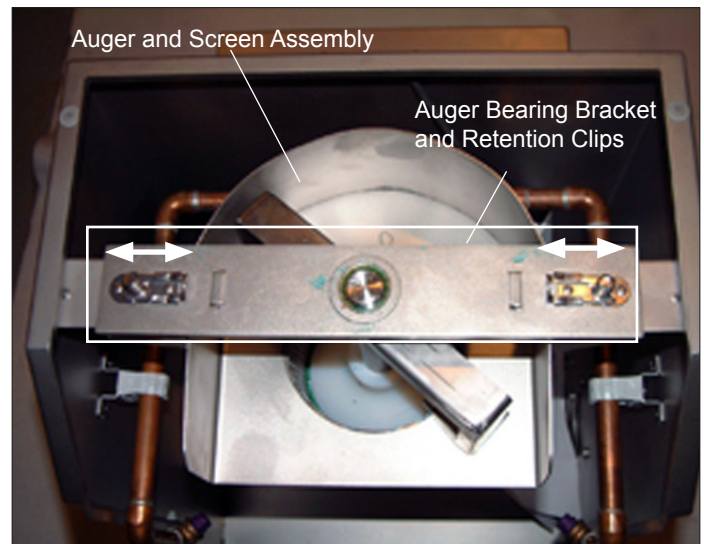

Figure 7. Auger Bearing Bracket and Fasteners
3. Release retention clips on auger bearing bracket by pushing inward and remove bracket (Figure 7).
3. Install bearing bracket assembly over guide pins and auger shaft. Slide retention clips outward toward ends of bracket (Figure 7).
3. Release retention clips on auger bearing bracket by moving inward and remove bracket (Figure 7).
26. Install bearing bracket assembly over guide pins and auger shaft. Slide retention clips outward toward ends of bracket (Figure 7).